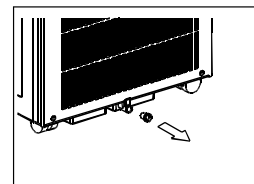

Fig.6
- When the water level of the bottom tray reaches a predetermined level, the unit beeps 8 times, the digital display area shows "P1" and the unit stops operation. Carefully move the unit to a drain location, remove the bottom drain plug and let the water drain away (Fig.6). Restart the machine until the "P1" symbol disappears. If the error repeats, call for service.